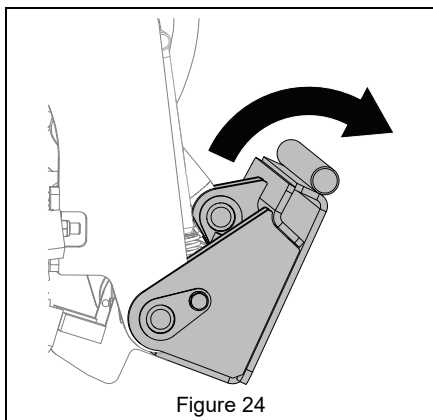

Figure 24
2. Activate hydraulic safety interlock push button. Tilt attachment frame forward so top round edge of attachment frame fits under lip on attachment. See Figure 24.